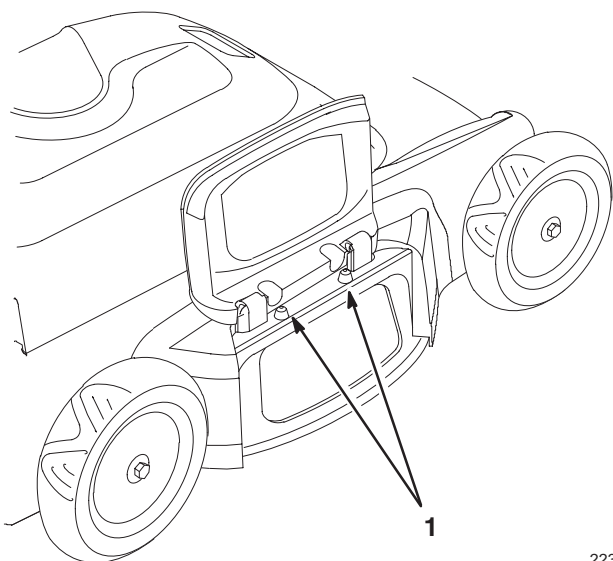

Figure 19
2. Hook side discharge chute onto pegs (Figs. 19 and 20).